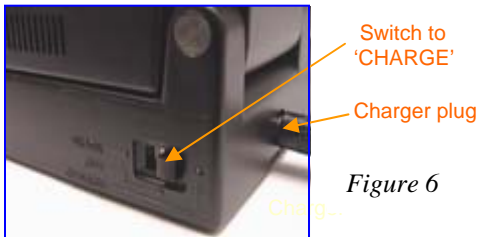

Figure 6
1. Plug the pigtail connector of the Charger to the monitor module, and turn the switch to 'CHARGE'. (See Fig. 6)